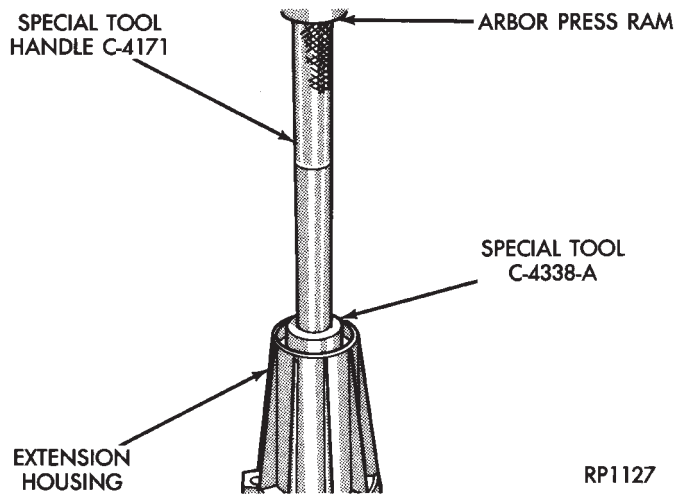

Fig. 64 Removing Extension Housing Bushing
(54) Remove extension housing seal if not removed previously.
(55) Remove extension housing bushing with Bushing Installer Tools C-4171 and C-4338-A (Fig. 64).